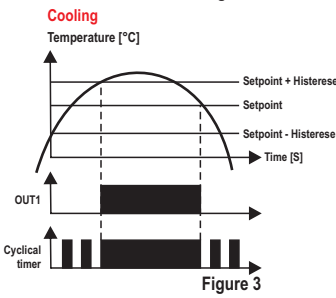

Figure 3
- **Cyclical timer output is on whenever stage 1 output is on (F22=4):** in this operating mode timer cycles according to the times configured in F20 ($\overline{[T \theta n]}$) and F21 ($\overline{[T \theta F F]}$), and **stage 3** stops cycling and keeps the output switched on, whenever **stage 1** output switches on, as shown in Figure 3.